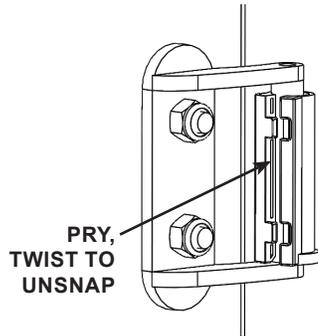

FIGURE 3.17 - Hinge Bushing
STEP 1: Use a flathead screwdriver to pry, separate the two hinge bushing halves. See FIGURE 3.17 & 3.18